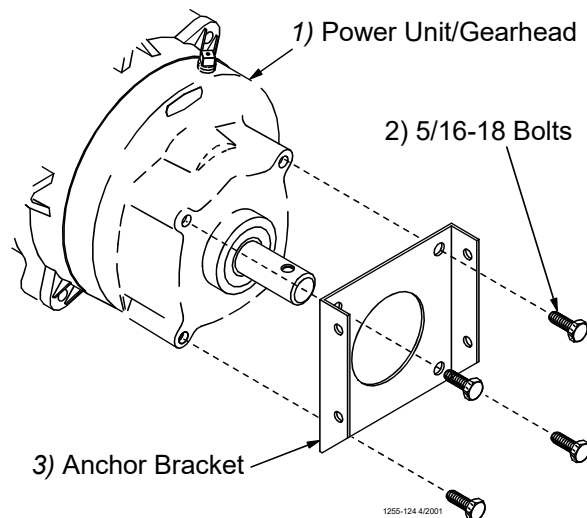

Figure 38. Assemble the Anchor Bracket to the Power Unit/
3. Install the Anchor Bracket to the Power Unit/Gearhead, as shown in **Figure 38**, with the included 5/16-18 Bolts.